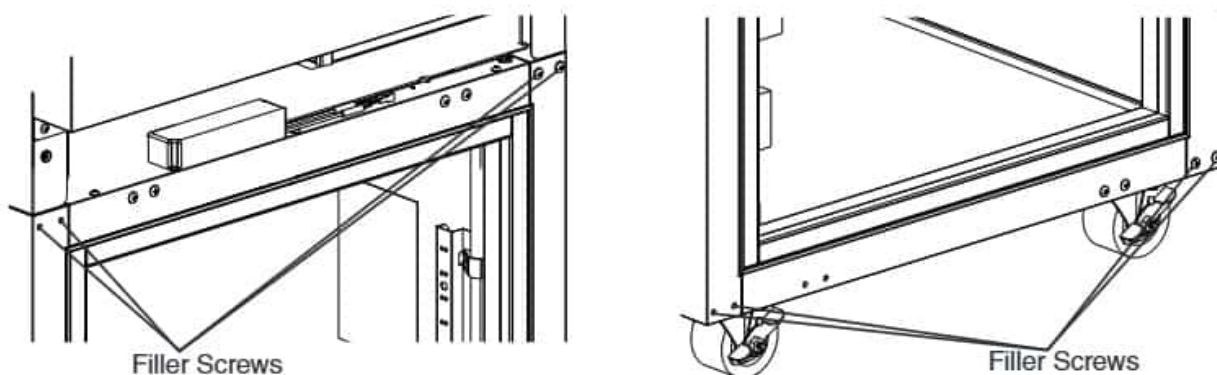

Fig. 43
- 11) Move the upper and lower filler screws to the opposite side of the cabinet. See Fig. 43.